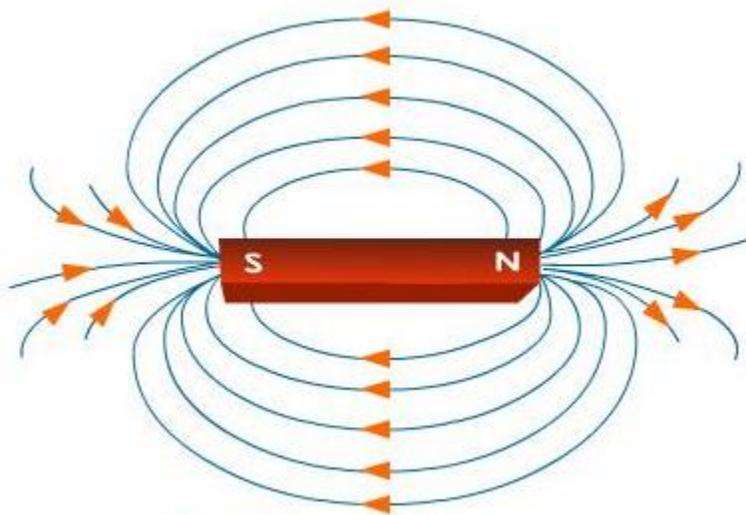

Figure 4.6: Magnetic Field of a Bar Magnet
- 4-29 Figure 4.6 shows how the direction of a magnetic field is defined. Compare the pattern of iron filings in the photograph to the lines in the diagram showing the field directions.